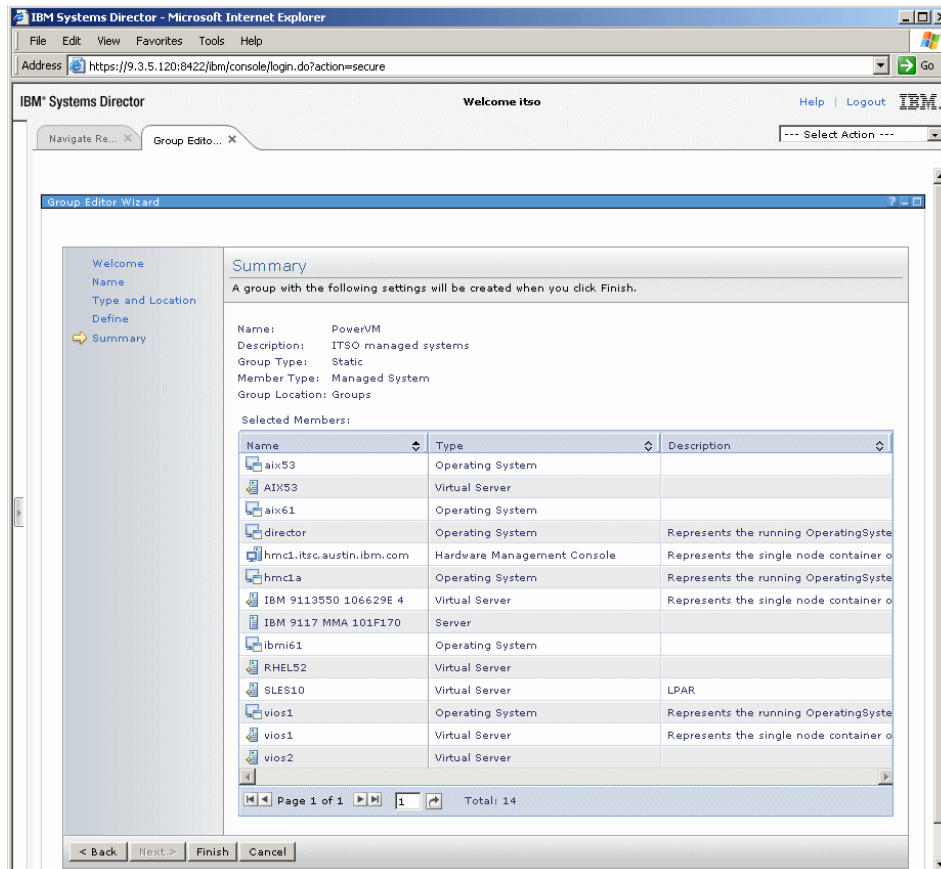

Figure 10-17 IBM Director Create Group Summary
5. Figure 10-17. show the Group Editor Summary, click **Finish** to create the group.